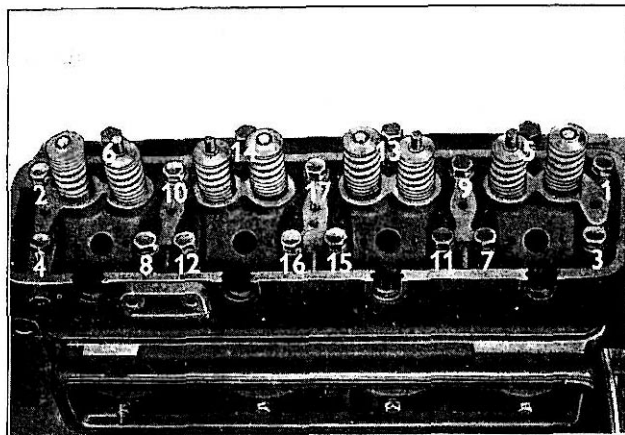

Fig. 4
- 8 Unscrew the seventeen bolts retaining the cylinder head to the cylinder block in the order shown in Fig. 4.